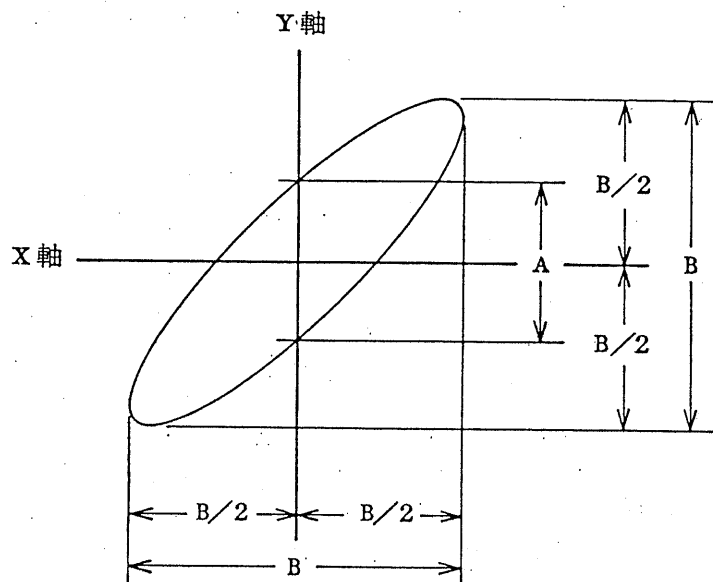

Fig. 7
Set the SWEEP RANGE switch (20) in the "X-Y" position, apply the input signals to the CHL and CHR VERT INPUT terminals (6) and (8), and adjust equal the X and Y amplitudes. Denoting by A (DIV) the distance between the two points where the Lissajous figure crosses the X axis (or Y axis) and by B (DIV) the figure's amplitude in the X axis (or Y axis) with the figure positioned in the screen center as shown in Fig. 7, the phase difference  $\alpha$  is calculated as follows: